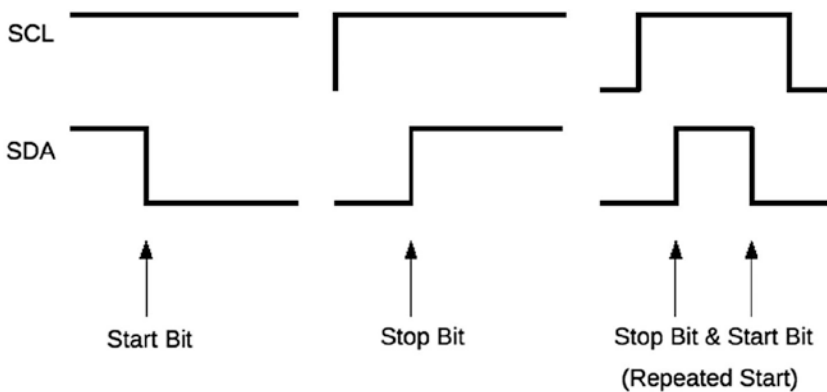

Figure 11-1. I2C start, stop, and repeated start bit signals
Step 2 usually happens within a clock cycle, although it need not be precisely so. When the bus is idle, it is enough to see the SDA line going low while the SCL remains high. Figure 11-1 illustrates the start, stop, and repeated start I2C signals.